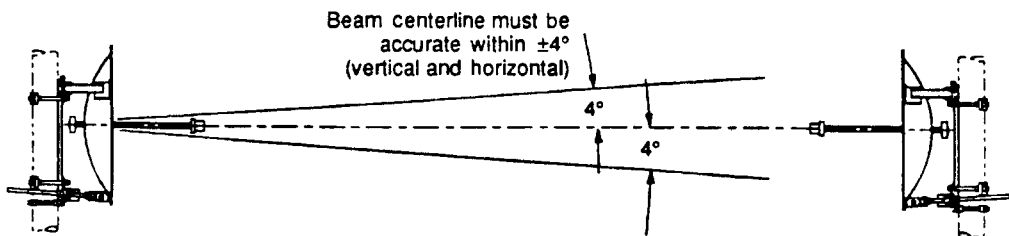

Figure 3-1. Typical Positioning of Parabolic Dish Antenna
8. Loosen the antenna securing bracket just enough to allow the antenna to be swung up and down (refer to Figure 3-1).